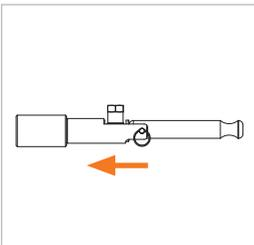

Figure 4
- ▶ Grip the connector by its base unit (Pos. 1) and plug it up to the stop straight onto the test piece (*Figure 4*). Doing so will prevent any damage to the front seal caused by any sharp edges on the test piece and ensure a correct connection.